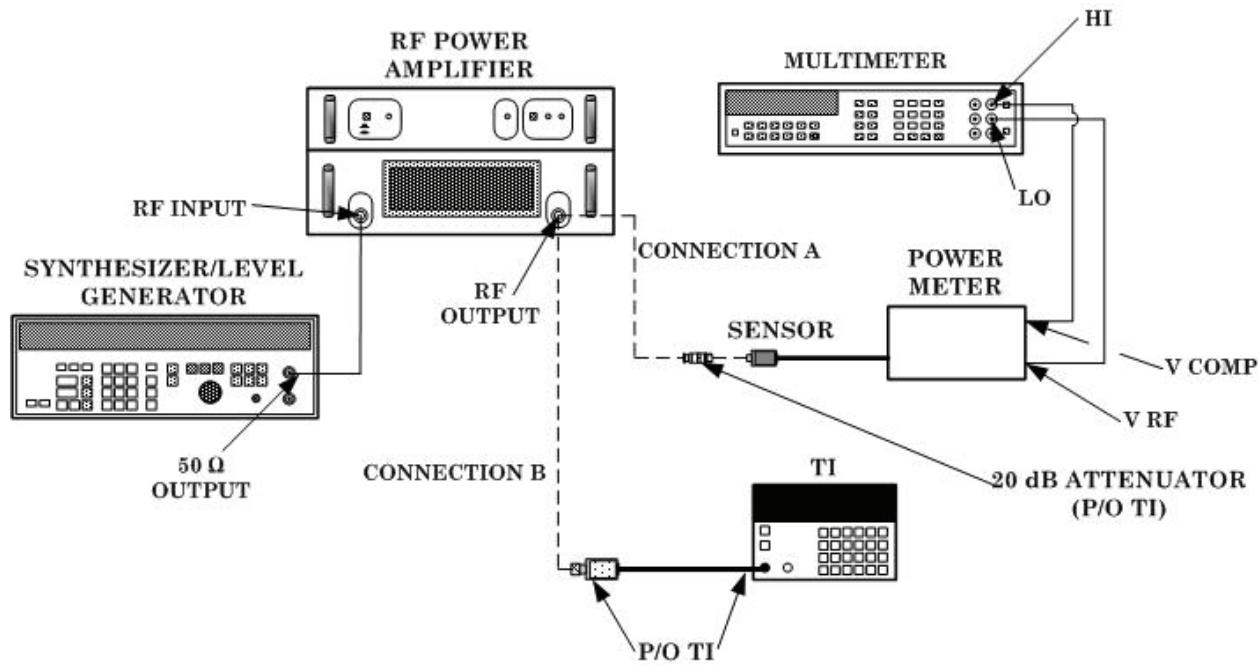

Figure 2. +15 and +25 dBm accuracy – equipment setup.
(9) Position synthesizer/level generator controls for a 50 MHz, -86 dBm output and connect equipment as shown in figure 2, CONNECTION A.
- (14) Disconnect cable from input of amplifier and connect equipment as shown in figure 2, CONNECTION B.
- (15) Reconnect cable to input of amplifier. If display does not indicate power recorded in (13) above ± 0.18 dBm, perform **b** (32) through (51) below, and (52) through (54) for (16) below.
- (16) Repeat technique of (9) through (15) above for a power level of +5 dBm in (10) above.